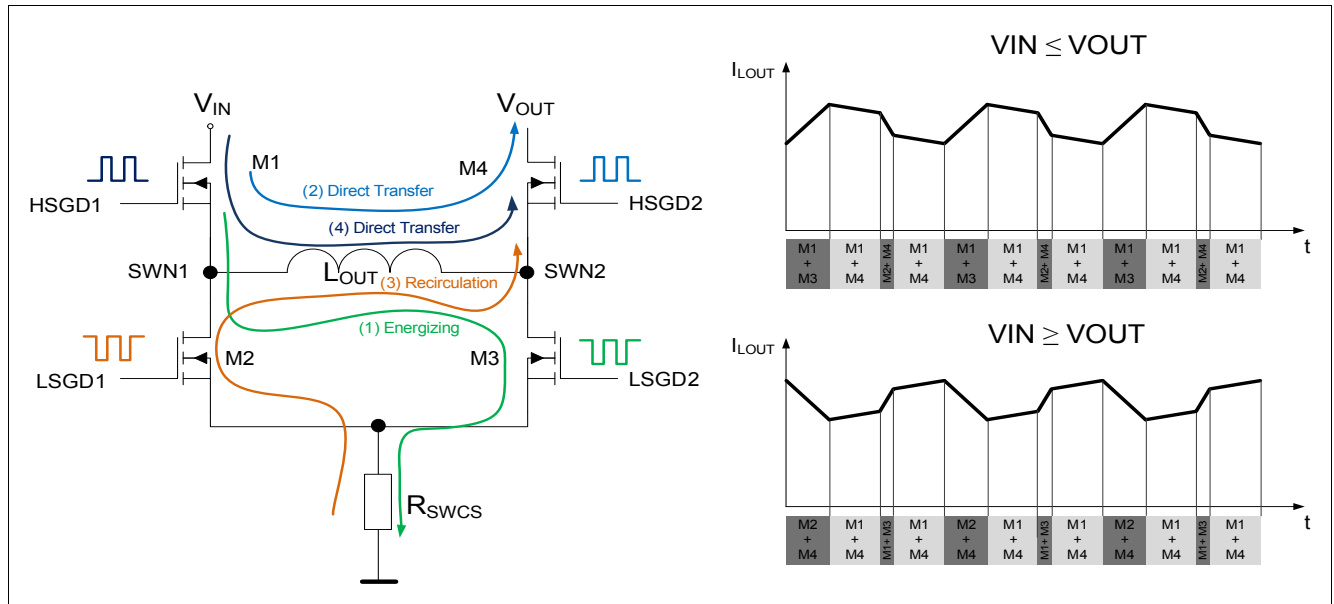

Figure 16 4 switches H-Bridge architecture in BUCK-BOOST mode
- The two buck boost waveforms and switching behaviors are displayed in Figure 16 below